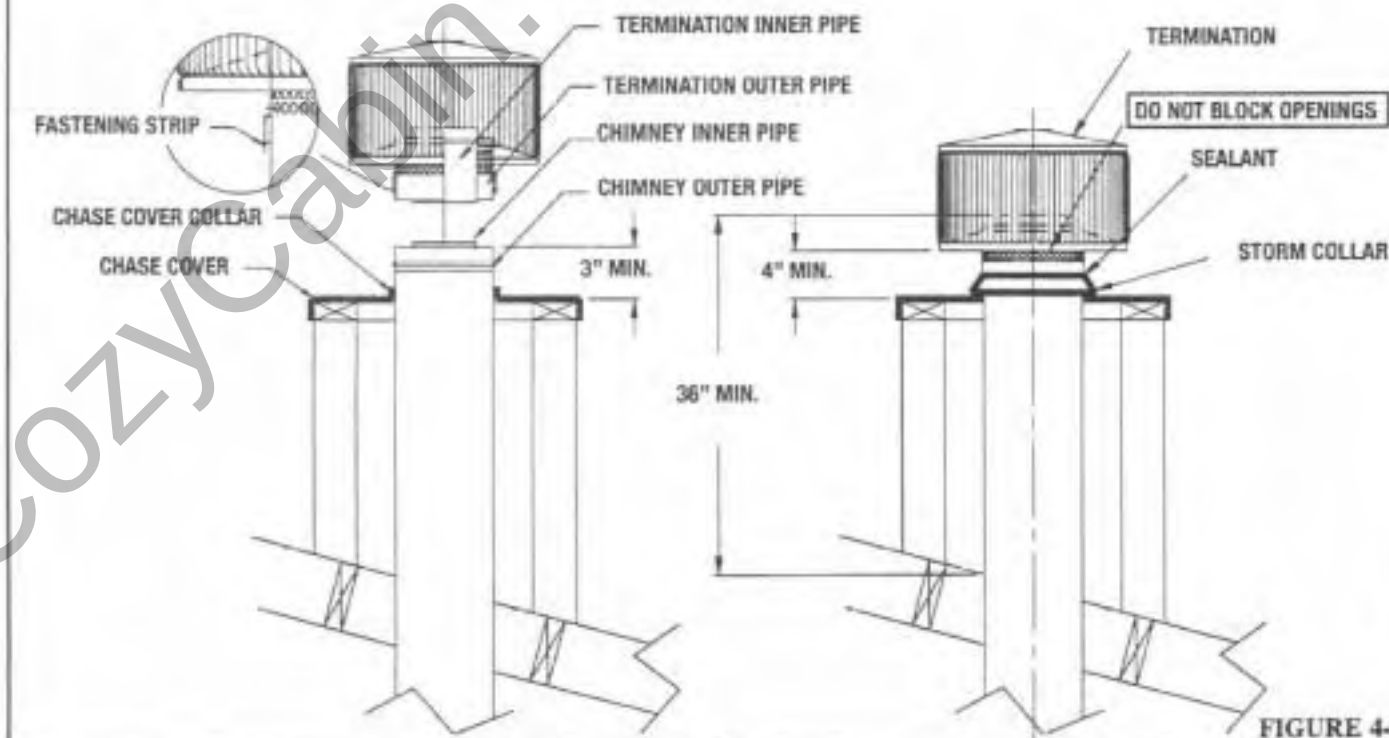

FIGURE 4-16
2. Push the termination assembly down onto the chimney until the outer pipe engages the fastening strips on the termination outer pipe. (See figure 4-16).
3. Secure the termination by installing three (3) sheet metal screws through the outer pipes. One screw on each of the terminations fastening strips.
4. Ensure that the outer pipe extends at least 3 inches above the chase cover. (See figure 4-16).
8. Secure the termination by installing three (3) sheet metal screws through the outer pipes. One screw on each of the terminations fastening strips.